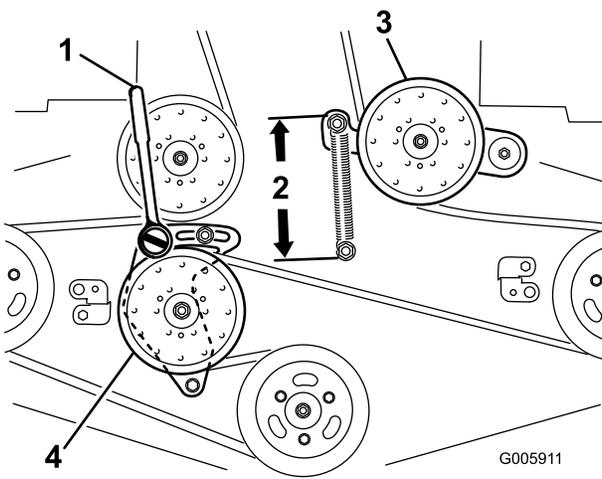

Figure 86
- Loosen the fixed idler arm and adjust it to relieve belt tension (Figure 86).
- Insert a ratchet with a short extension or a breaker bar into the square hole in the fixed idler arm (Figure 86).
- To increase the belt tension, rotate the ratchet or breaker bar counterclockwise to move the fixed idler arm until there is 16.5 cm (6-1/2 inches) between the spring hooks (Figure 86).